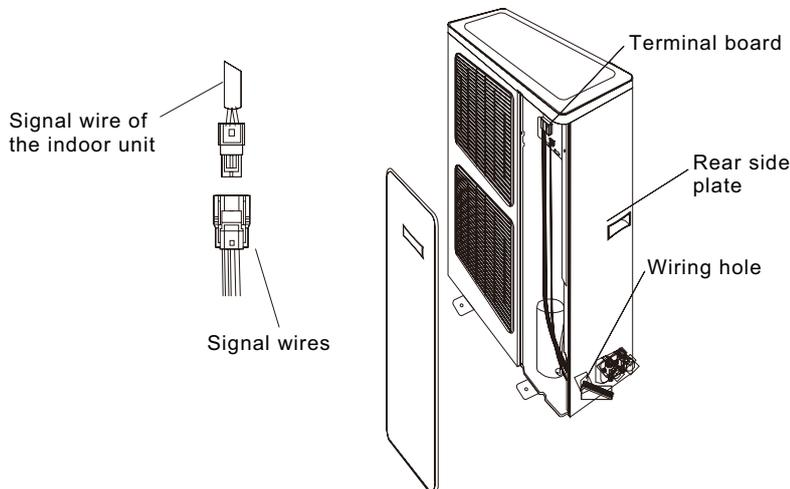

Fig.17
3. Please refer to the electric wiring connection of the indoor unit, then fix them with wire clamp.(As shown in Fig.17)